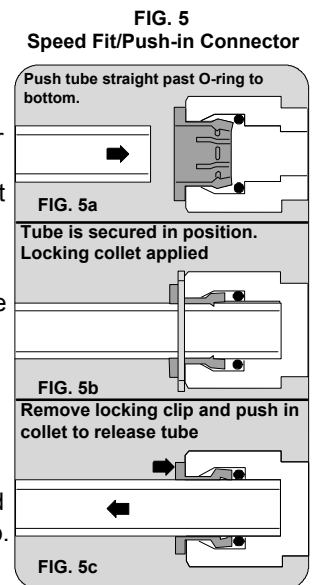

FIG. 5
8. Insert drain tubing into the push-in connector to complete the installation. (See Fig. 5)